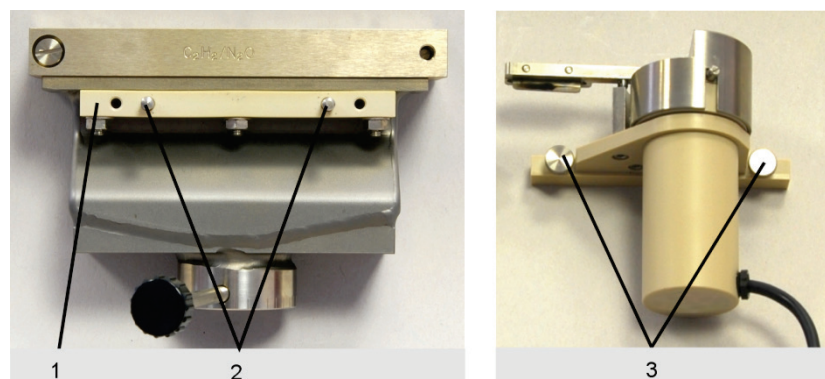

Fig. 56 Fastening rail / knurled head screws on the scraper
2. Unscrew the fastening rail (item 1 in Fig. 56) with the knurled head screws (item 3 in Fig. 56) from the scraper.
3. Mount the fastening rail to the burner body as shown in Fig. 56. Use the three longer titanium screws and the nuts that were supplied with the equipment to mount the rail. Insert the screws from the top through the front burner jaw and screw down the fastening rail with nuts.
4. Attach the scraper to the guide pins of the fastening rail (item 2 in Fig. 56) and tighten it with knurled head screws (item 3 in Fig. 56).